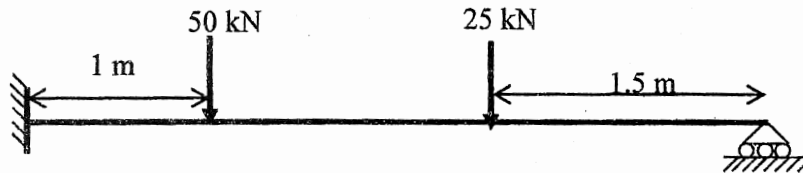

Fig.5
5. Draw the shear force and bending moment diagrams of the beam of span 4.5 m supported and loaded as shown in Fig.5.